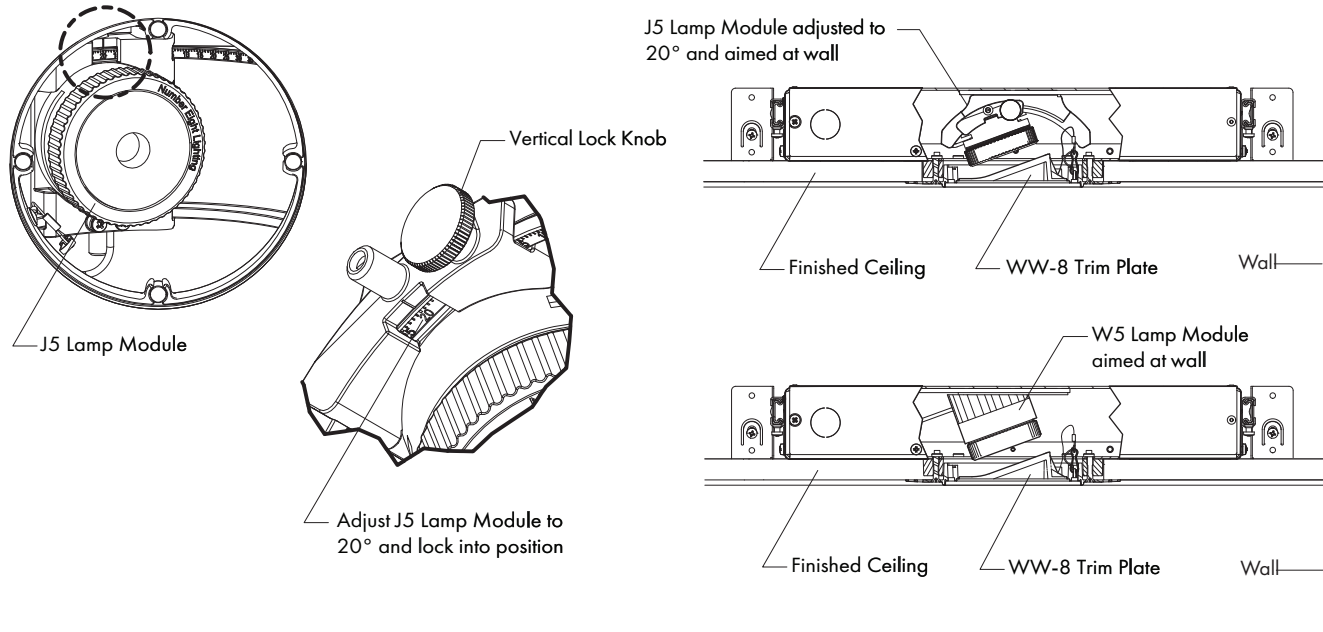

FIG 8.1 Orient Lamp Module with Wall
STEP 1 For J5 Lamp Module only: Loosen Vertical Lock Knob and adjust to 20° and lock in position - **FIG 8.1.**
STEP 2 Orient J5 or W5 Lamp Module toward wall - **FIG 8.1.** **Note:** For additional W5 orientation details, see **Page 7, FIG 7.1**